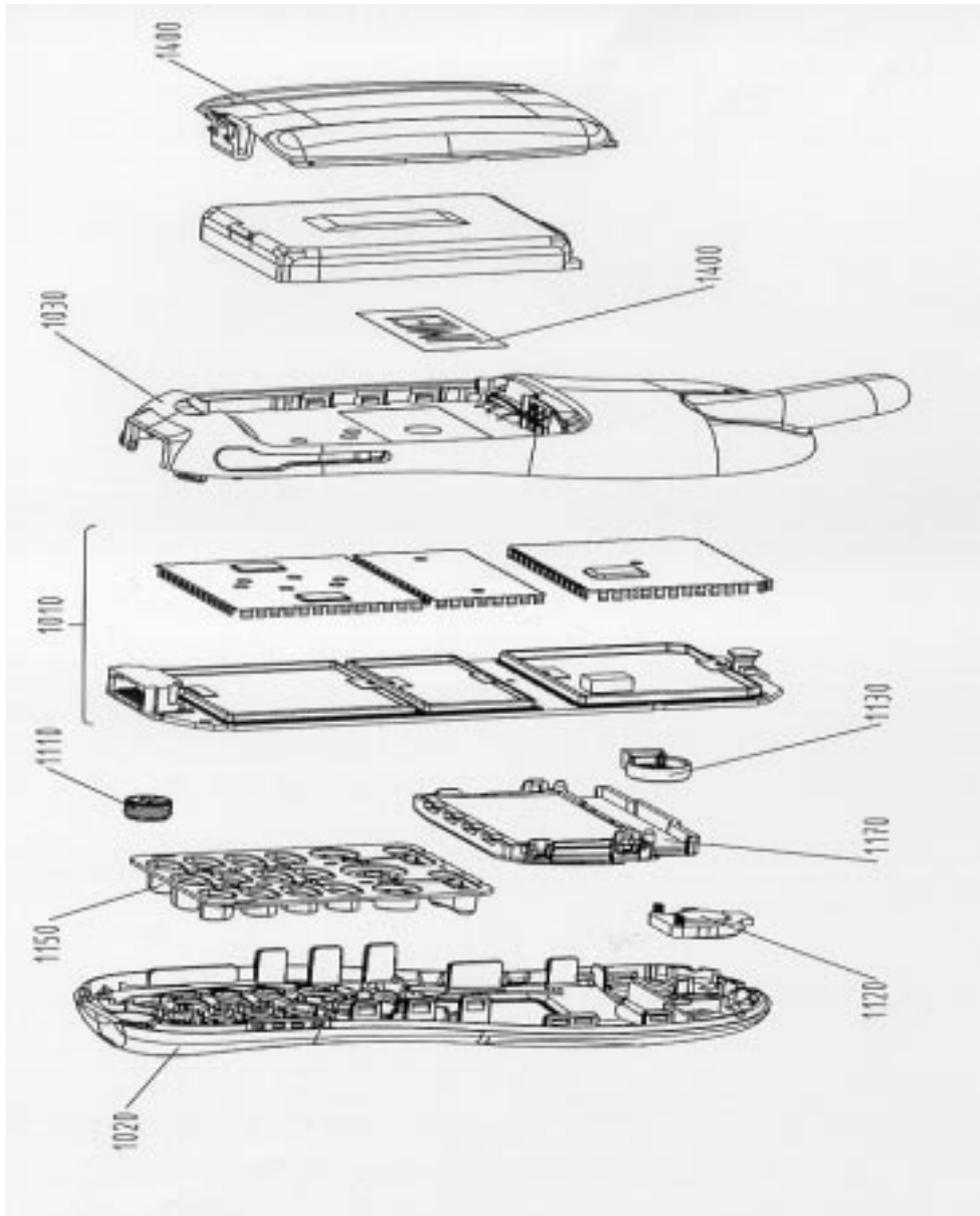

FIGURE 2.1 C35 MECHANICAL DIAGRAM.
**Note:** All numbers refer to mechanical drawing in Figure 2.1.